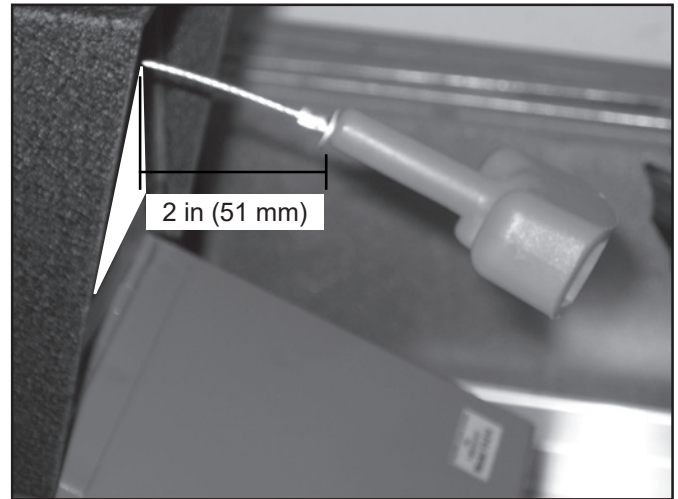

Figure 6. Leave 2 in (51 mm) of Cable Between Pull Handle and Cable Jacket
13. Leave 2 in (51 mm) of cable between the handle and the lock box cable ferrule. Leave 3 in (75 mm) of cable past the cable ferrule in the cable release bracket and cut the excess cable (Figure 6).